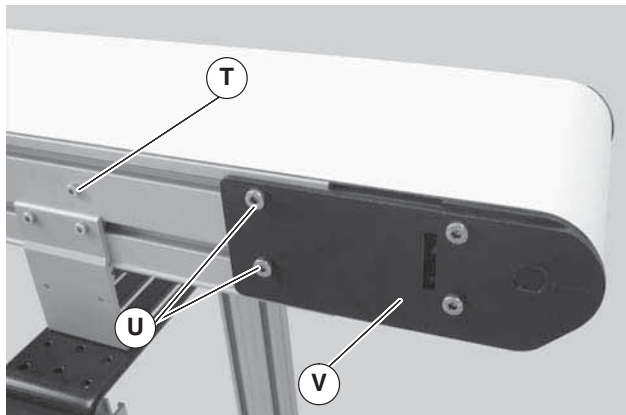
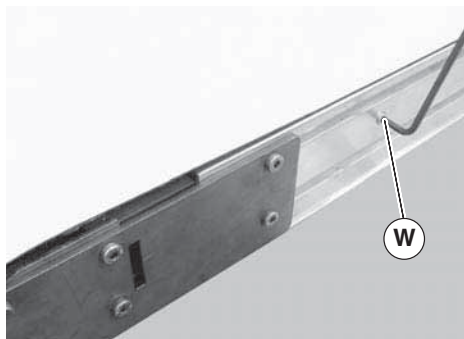

Figure 22
Figure 23
4. On tension end of the conveyor, identified by the pinion locking screw (Figure 22, item T), push in head plate assembly (V): Loosen the pinion locking screw (T), adjust the pinion torque screw (Figure 23, item W). On both sides of conveyor, loosen the two tail clamp bolts (Figure 22, item U), and push head plate assembly (V) inward.